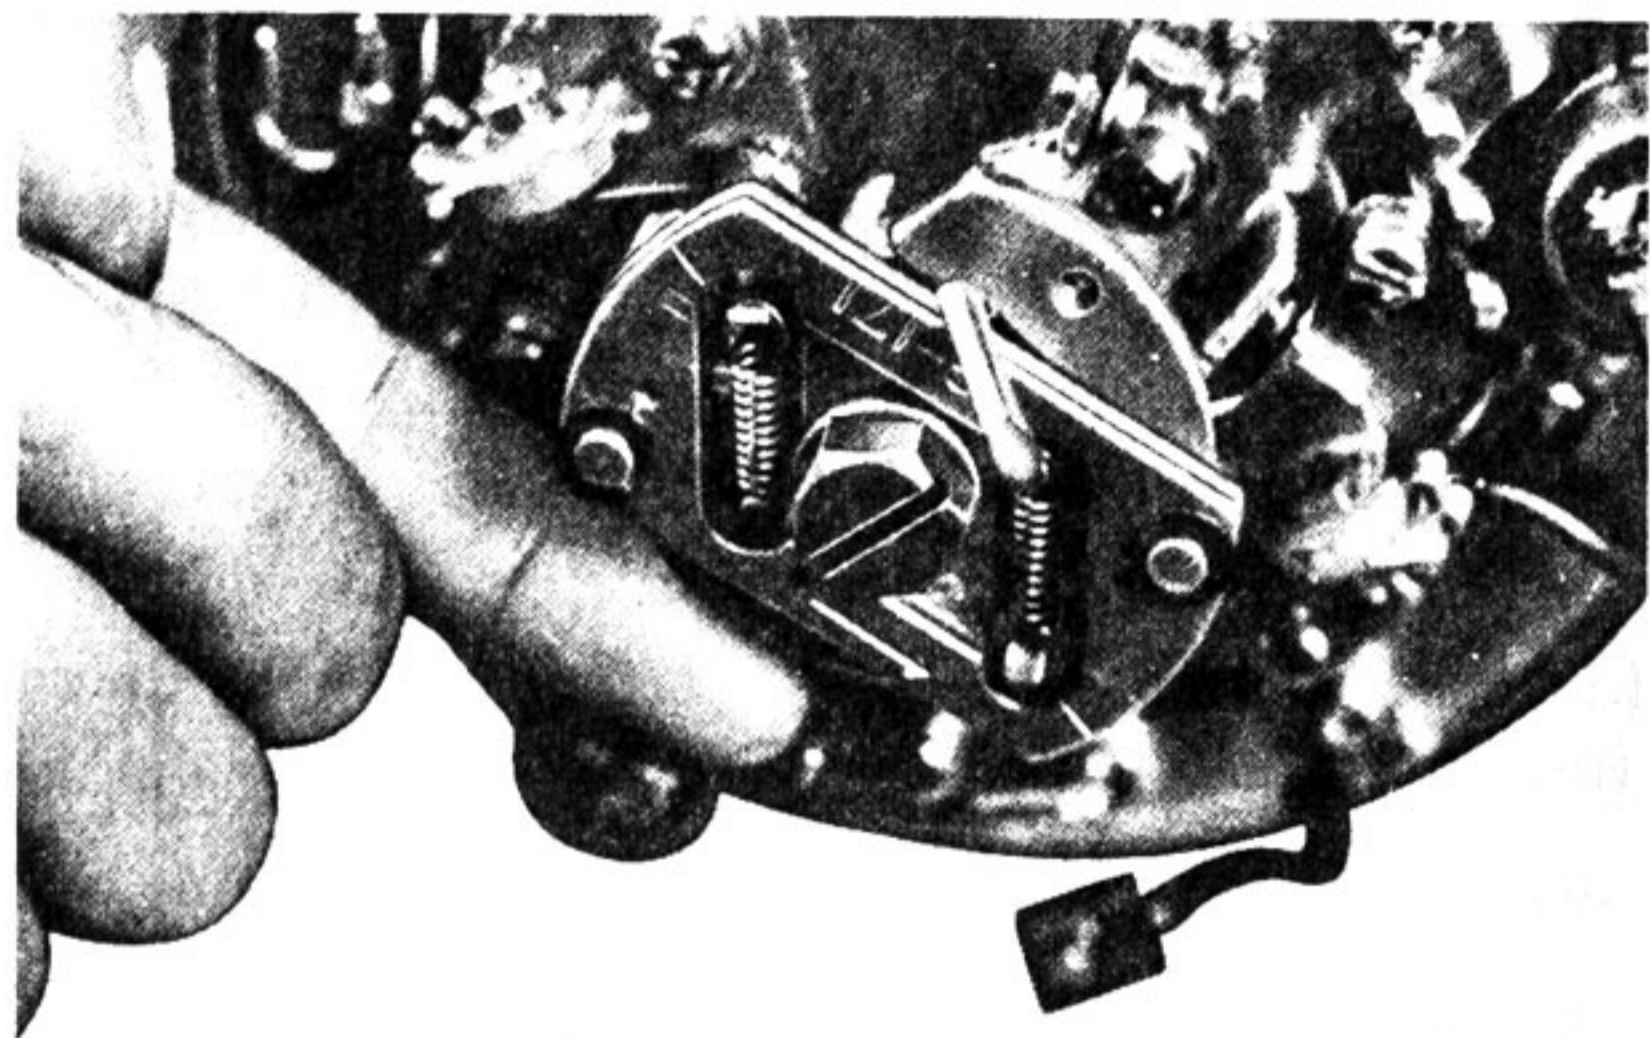

Fig. 6-5-15
- (5) Insert a match, bent spoke or other suitable material into the hole in the advance plate of the governor assembly. This will hold the governor assembly at the maximum advance position. All YAMAHA engines with electric starter utilize a governor assembly. This assembly must be at maximum advance before the engine is timed. (Fig.6-5-15)